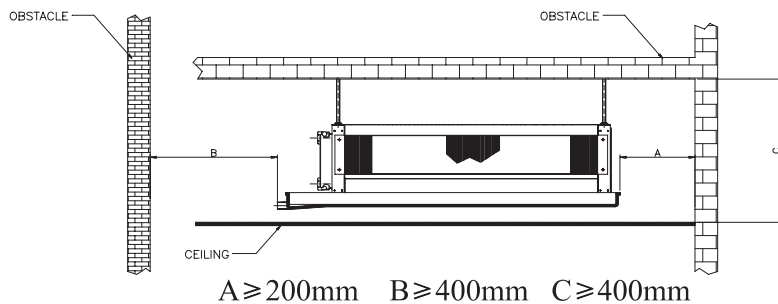
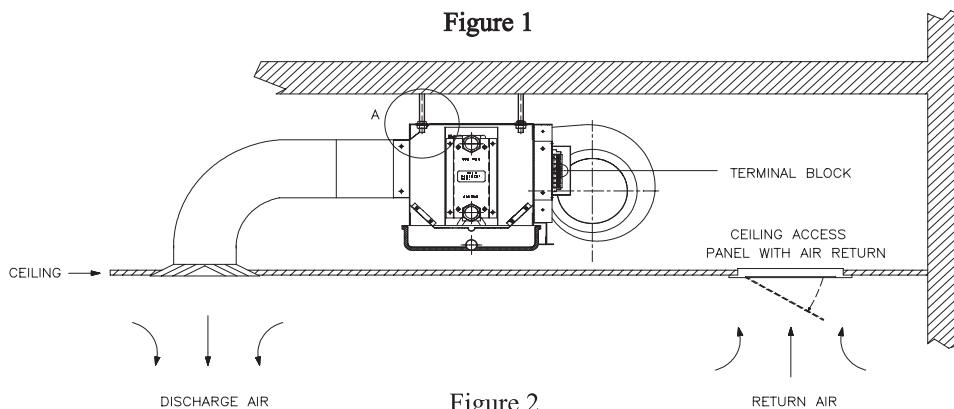

Figure 1
Figure 2
1. There must be enough space for unit installation and maintenance. Please refer to the unit's drawings and dimensions and Figure 1 for the minimum distance between the unit and obstacle.
2. There are holes on the top of the unit for hanging. Please refer to Figure 1, Figure 2 and Figure 3.